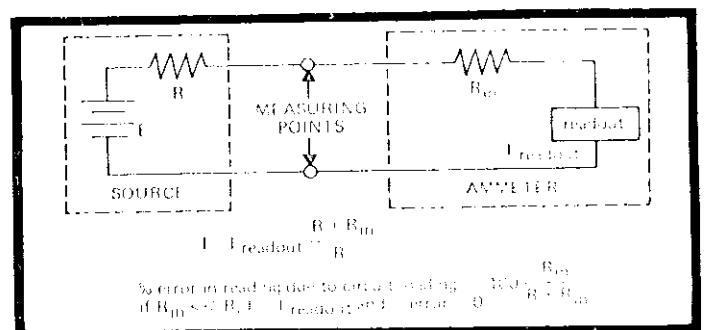

FIGURE 4. Ammeter Loading Effects.
c. The current accuracy is specified as  $\pm 0.2\%$  of reading,  $\pm 1$  digit on all ranges. Since the accuracy is specified at the input terminals, the loading effects as shown in Figure 4 should be considered. Refer also to Table 2-1 for resistance and sensitivity on each range.